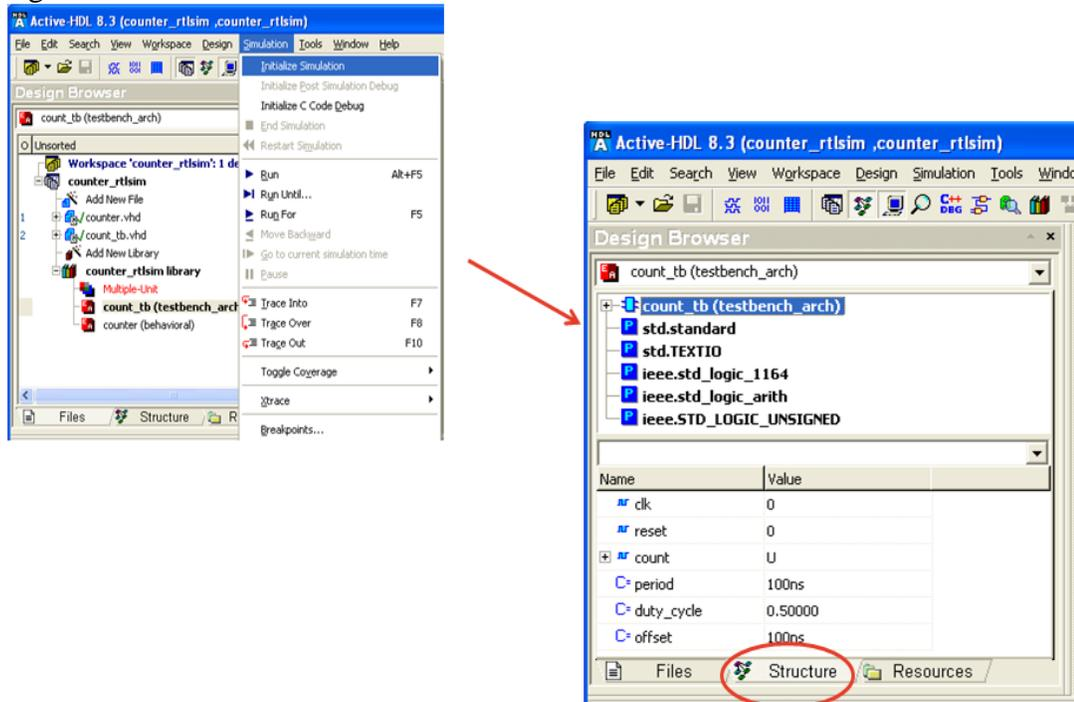

Figure 10-9 : Initialize Simulation.
8. Click on Simulation > Initialize Simulation. After Initialization, the “Design Browser” view will be changed from “file” view to “Structure” view as shown in Figure 10-9.